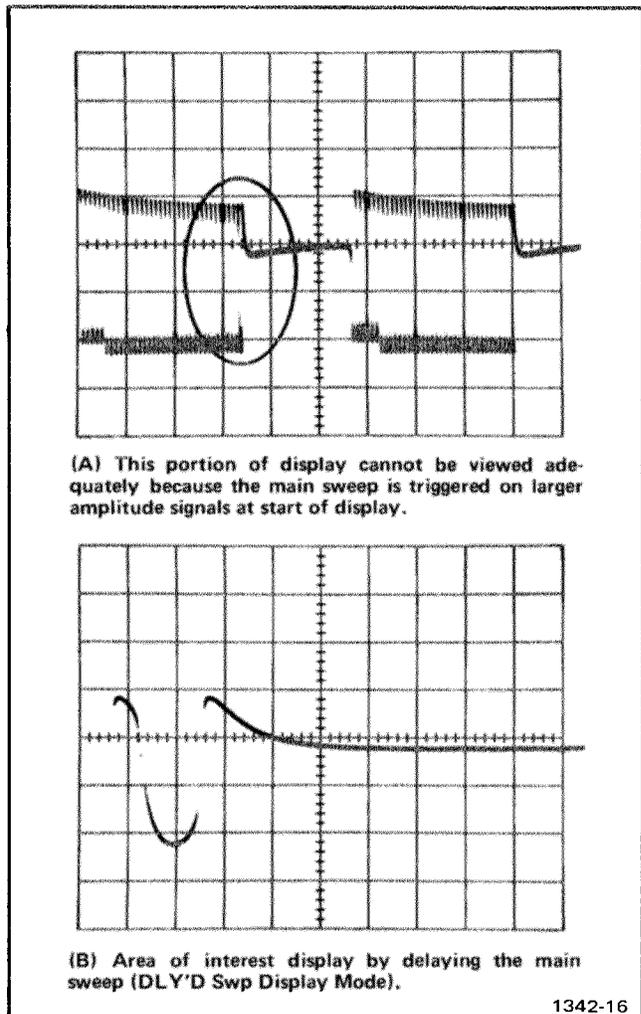

Fig. 2-15. Displaying a complex signal using delayed sweep.
**Example.** Fig. 2-15 shows a complex waveform as displayed on the crt. The circled portion of the waveform cannot be viewed in any greater detail because the sweep is triggered by the larger amplitude pulses at the start of the display and a faster sweep rate moves this area of the waveform off the viewing area. The second waveform shows the area of interest magnified 10 times using Delayed Sweep. The DELAY TIME MULT dial has been adjusted so the delayed sweep starts just before the area of interest.